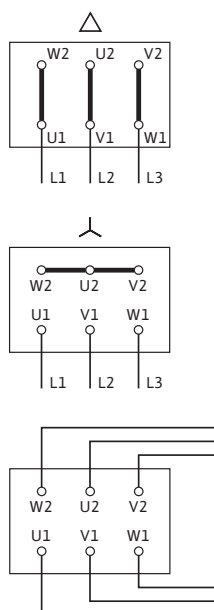

Fig. 8: Mains connection
- The mains connection to the terminal board is dependent on the motor power  $P_2$ , the mains voltage and the start-up type. The recommended switching arrangement of the connection bridges in the terminal box should be taken from the following table and fig. 8.
| Direct        | Δ-circuit (fig. 8 top)                   | Y-circuit (fig. 8 centre) |
| Y-Δ starting  | Remove connection bridges (fig. 8 below) | not possible              |